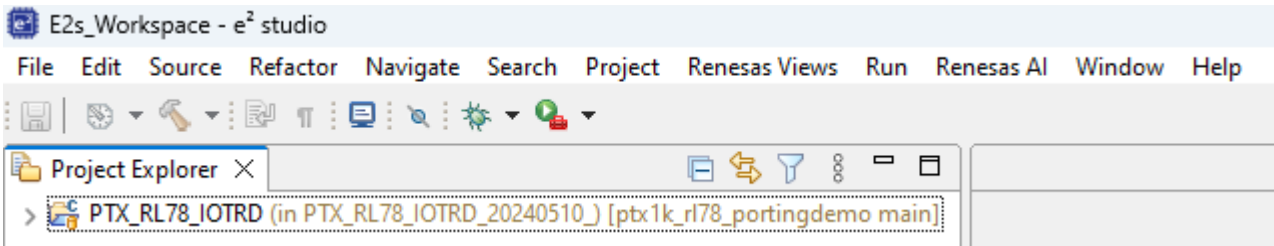

Figure 5. Project Explorer – Imported Project
7. In the *Project Explorer* tab, the imported project will be displayed as shown in Figure 5.